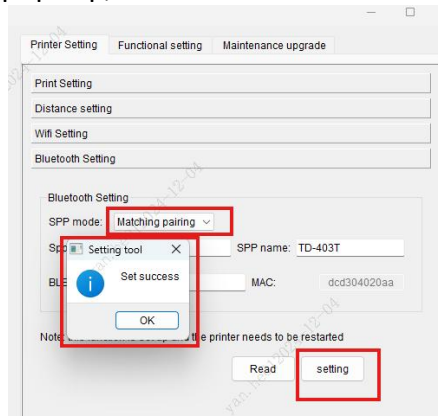

Fig.37
- ② Matching Pairing: Select "Matching Pairing" for the SPP connection mode, enter the pairing code in the "SPP_PIN Code" box, or select the default pairing code, and then click "setting" (shown in Fig.37). After successful setup, restart the